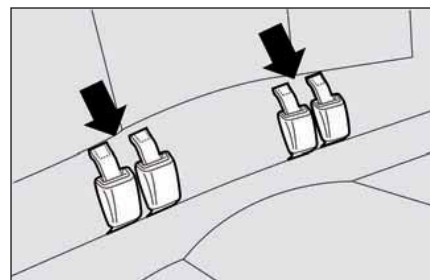

fig. 116
- ☐ fasten the buckles to the tabs **fig. 116** (shown by the arrows) on the backrest;